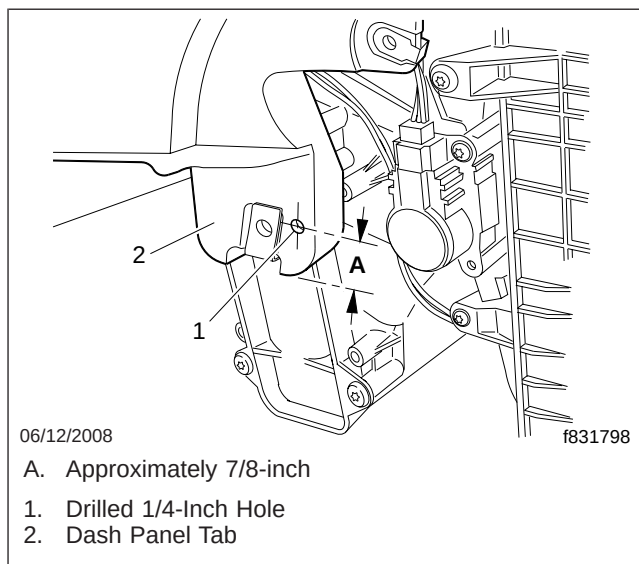

Fig. 4, New Hole Location
4. If not already done, drill a 1/4-inch hole in the dash tab to gain access to the upper right-side floor duct fastener. See Fig. 4 for the approximate location of the hole.